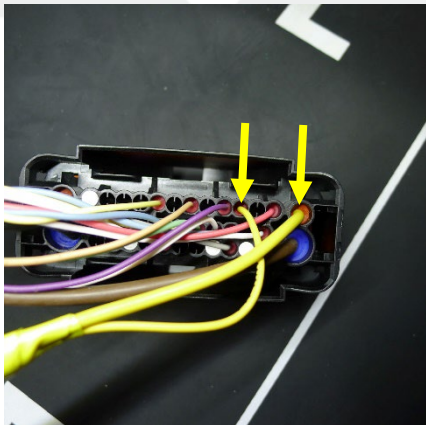

Figure 20
17. Perform a Push-Pull-Push check on each wire to make sure the wires are secure in the connector (Figure 20).